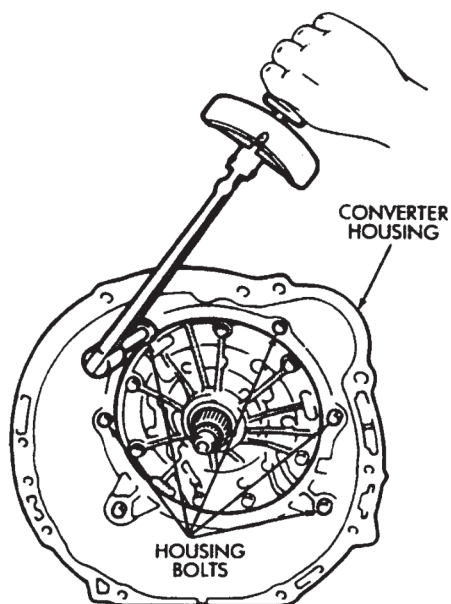
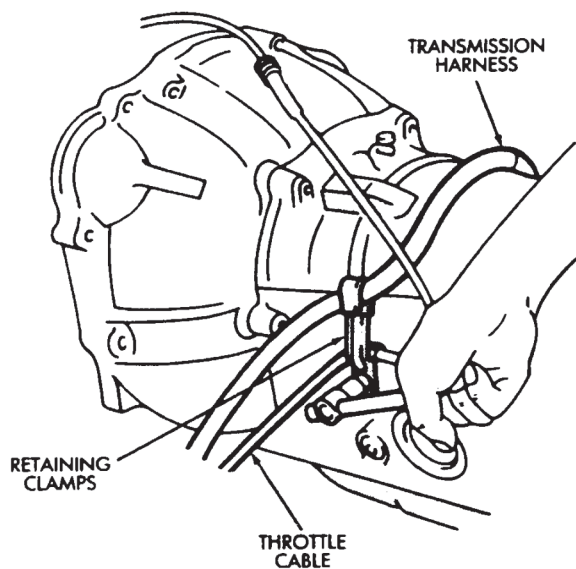
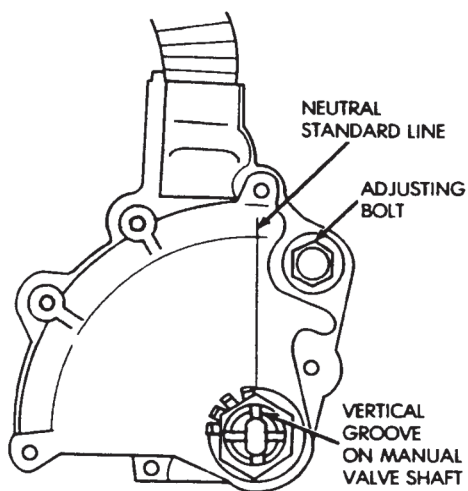

Fig. 68 Installing Converter Housing
Fig. 70 Installing Cable/Harness Clamps
Fig. 69 Neutral Switch Installation/Adjustment
(92) Install converter housing (Fig. 68). Tighten 12 mm diameter housing bolts to 57 N•m (42 ft-lbs) torque. Tighten 10 mm diameter housing bolts to 34 N•m (25 ft-lbs) torque.
(93) Install transmission shift control lever on manual valve shaft. Do not install the lever attaching nut at this time.
(94) Move shift control lever all the way to rear. Then move it two detent positions forward.
(95) Mount neutral safety switch on manual valve shaft and tighten switch adjusting bolt just enough to keep switch from moving (Fig. 69).
(96) Install neutral switch tabbed washer and retaining nut (Fig. 69). Tighten nut to 6.9 N•m (61 in-lbs) torque, but do not bend any of the washer tabs against the nut at this time.
(97) Align neutral switch standard line with groove or flat on manual shaft (Fig. 69).
(98) Tighten neutral switch adjusting bolt to 13 N•m (9 ft-lbs) torque.
(99) Install shift control lever on manual valve shaft. Tighten lever attaching nut to 16 N•m (12 ft-lbs) torque.
(100) Install retaining clamp for wire harness and throttle cable (Fig. 70).